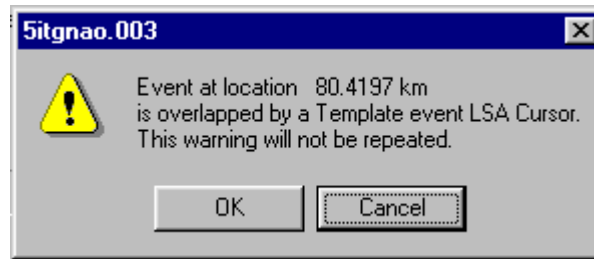

Figure 12-5: Warning Dialog
- Click **OK** to apply the splice template *without saving the traces*. The warning in Figure 12-5 may now appear indicating that the event at 80.4197 on trace 5ITGNAO.003 overlaps a template LSA cursor.